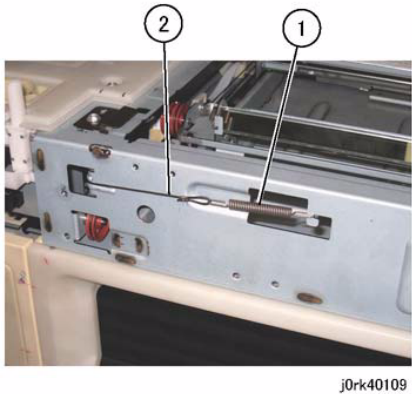

Figure 4 Carriage Cable Removal
7. Remove the Carriage Cable. (Figure 4)